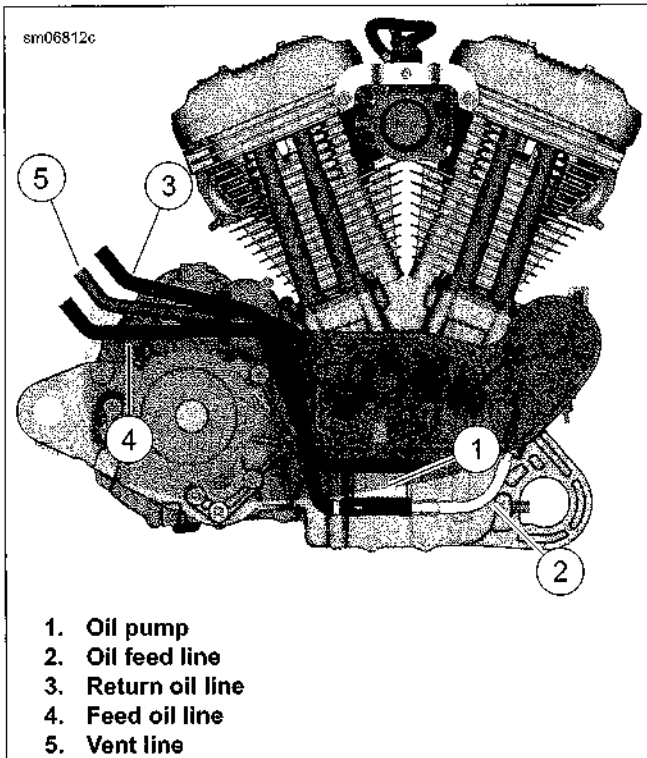

Figure 3-131. Engine Hose Routing
See Figure 3-131. An oil line (4) routes oil at front lower right corner of oil tank to a fitting on oil pump (1).